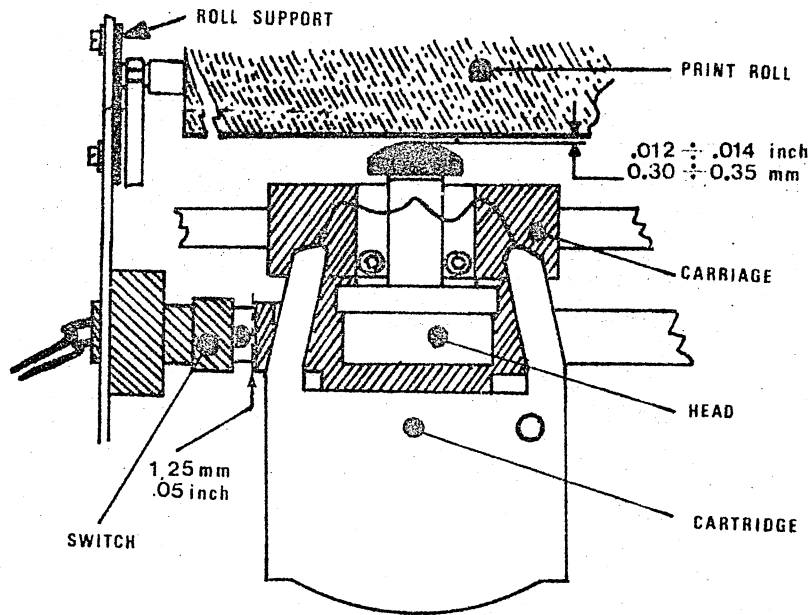

Fig. 8-10
- . Interpose a 1,25 mm (.05 inch) shim between the actuator of the beginning - of - line switch and the left-hand carriage stop (fig. 8.10), and move the carriage until the SWSOL signal (on TP 02) switching is detected
- . Interpose a 1,25 mm (.05 inch) shim between the beginning - of - line switch actuator and the carriage stop (fig. 8.10), move the carriage toward the left side until the SWOL (TP 02 = \emptyset volt) signal is switched, and then toward the right side until the beginning - of - line switch is tripped again (TP 02 = \sim 4 volt)